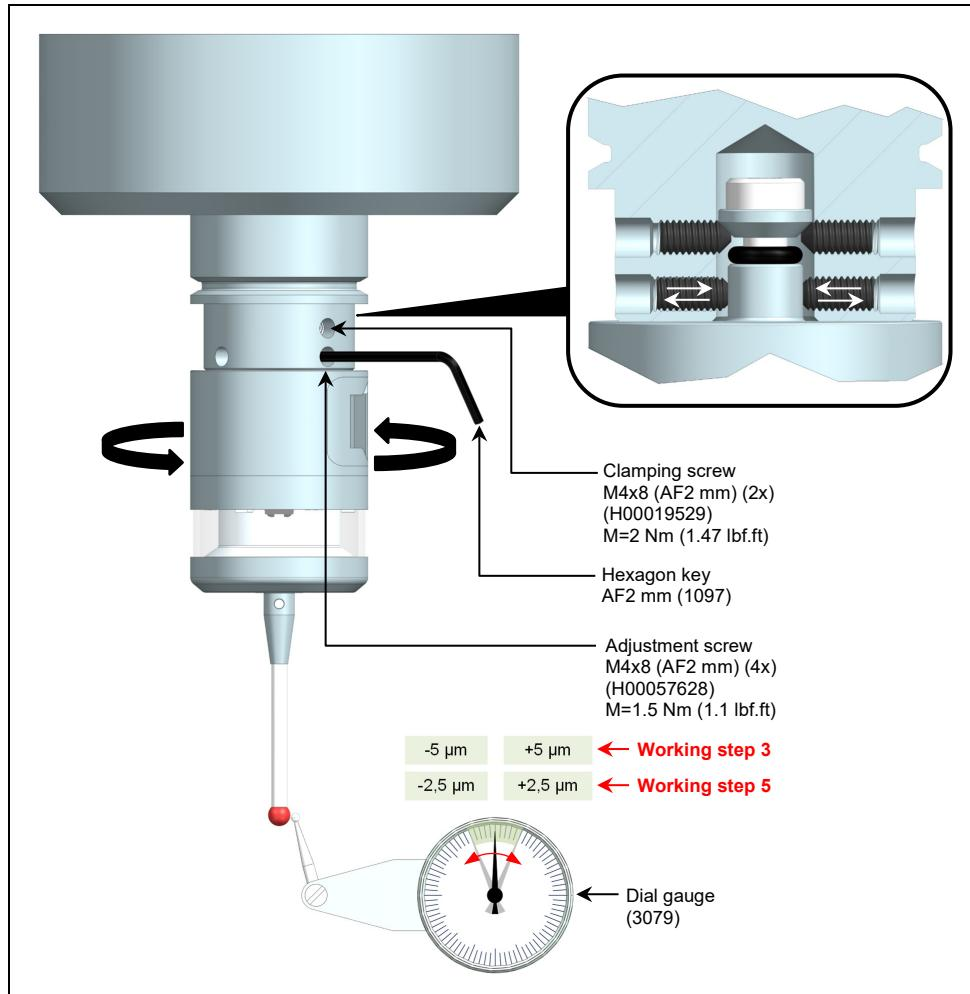

Fig. 9 Stylus runout adjustment (T)
4. Tighten clamping screws (2x) to the torque specified in (Fig. 9).
5. Adjust the touch probe with the adjustment screws (4x) to less than 5  $\mu\text{m}$  and tighten them to the torque specified in (Fig. 9).